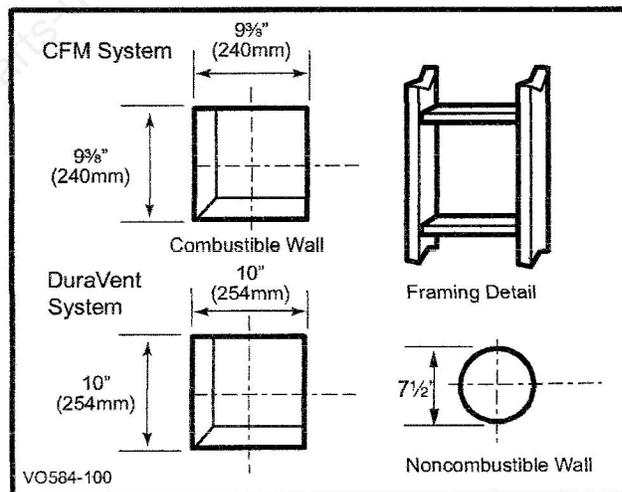

Fig. 29 Locate vent opening.
1. Locate the vent opening on the wall. Refer to Figure 4, Page 6, to determine the opening centerline. It may be necessary to first position the stove and measure to find the hole location. Depending on whether the wall is made of combustible materials, cut the opening to the size shown in Figure 29. Combustible wall openings must be framed as shown in Figure 29.